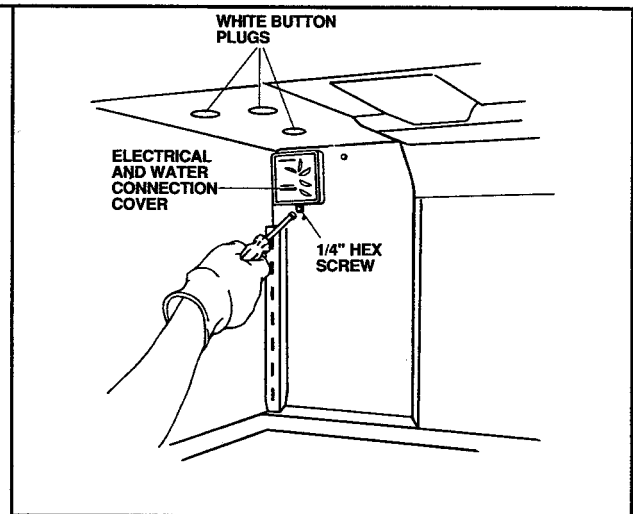

Figure 4
- a. Use the 1/4-inch hex socket and driver to remove the screw that attaches the cover to left rear interior wall. See Figure 4.